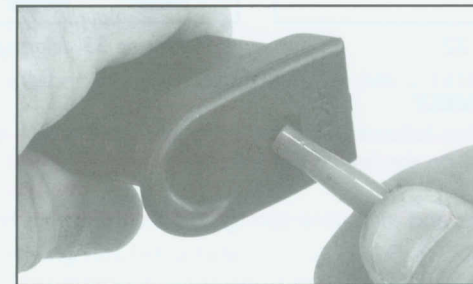

Figure 29
1. Using a blunt pointed instrument depress the locking detent located in the floor plate and hold it there (see Figure 29).